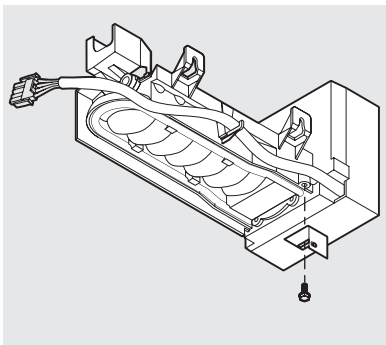

Figure 7
11. Install the adjustable leveling bracket on the bottom of the Ice Maker with a screw (Figure 7). Remove the leveling bracket screw from the ice maker body and insert the bracket between the ice maker body and the plastic heater cover. Re-install the leveling bracket screw but **DO NOT** tighten bracket at this point. It will be tightened later in this procedure.